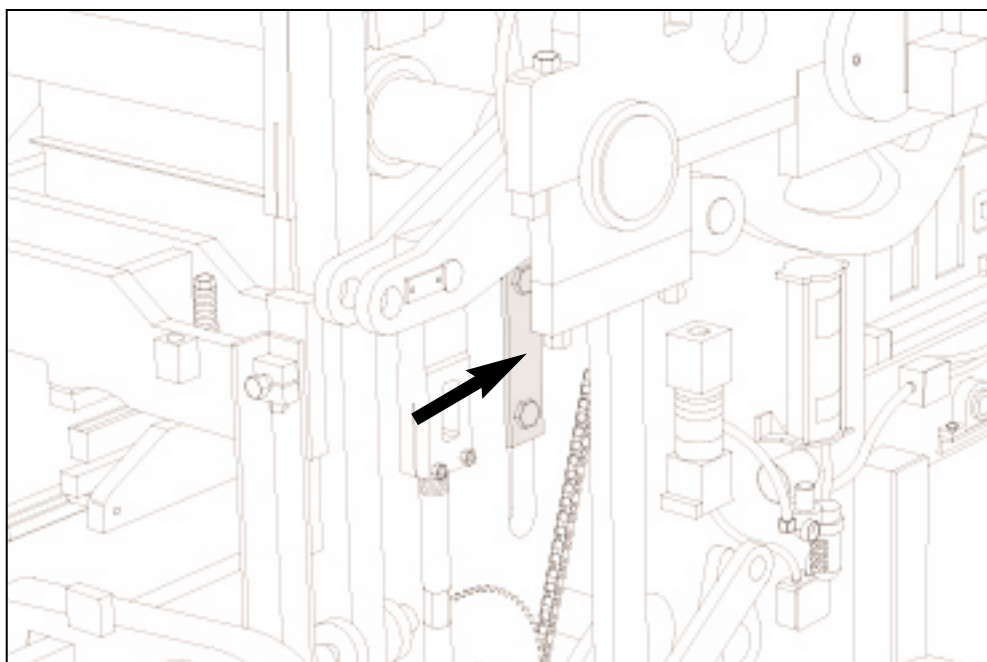

Figure 4.5 LOOSEN "T" CLAMPS ON BOTH SIDES.
a. Loosen the "T" clamps on each side of machine that secure machine side plate to mold throat plate. (Figure 4.5)